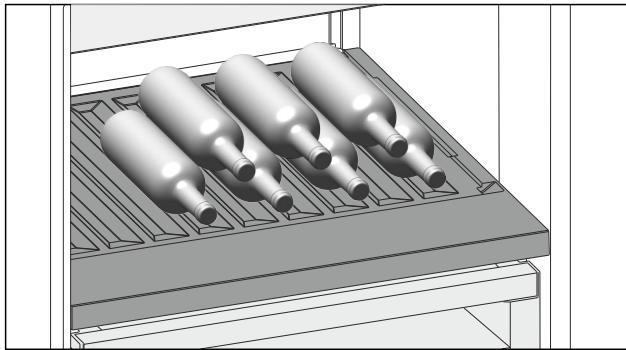

Fig. 150
- ▶ Place bottles in the back row with their bases against the back wall. (see Fig. 150)